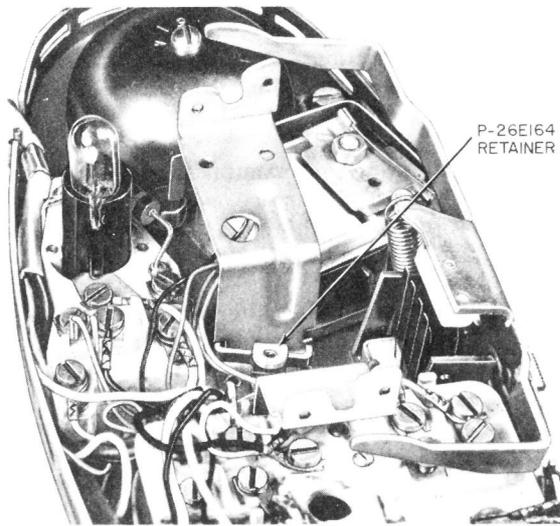
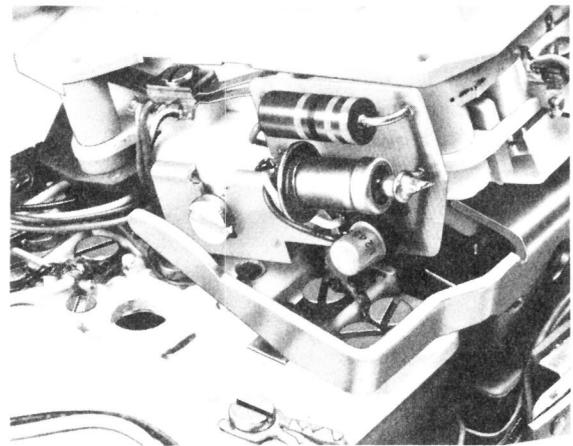

Fig. 4—Installing Terminal Board Retainer in PRINCESS Telephone Set
Fig. 5—Polarity Guard Mounted in PRINCESS Telephone Set
- (1) Remove housing, loosen dial mounting screws, and move the dial to one side without disconnecting the dial leads.
- (2) Insert the P-26E164 retainer in left-hand dial mounting bracket (Fig. 4).
- (3) Insert tabs of P-21F675 terminal board into notches in right-hand dial mounting bracket and secure to retainer using P-43A392 screw.
- (4) Connect polarity guard per Table D.
- (5) Reinstall dial mounting bracket, securing the P-90D054 guard assembly mounting bracket under the right-hand dial mounting screw (Fig. 5).
- (6) Reinstall housing.